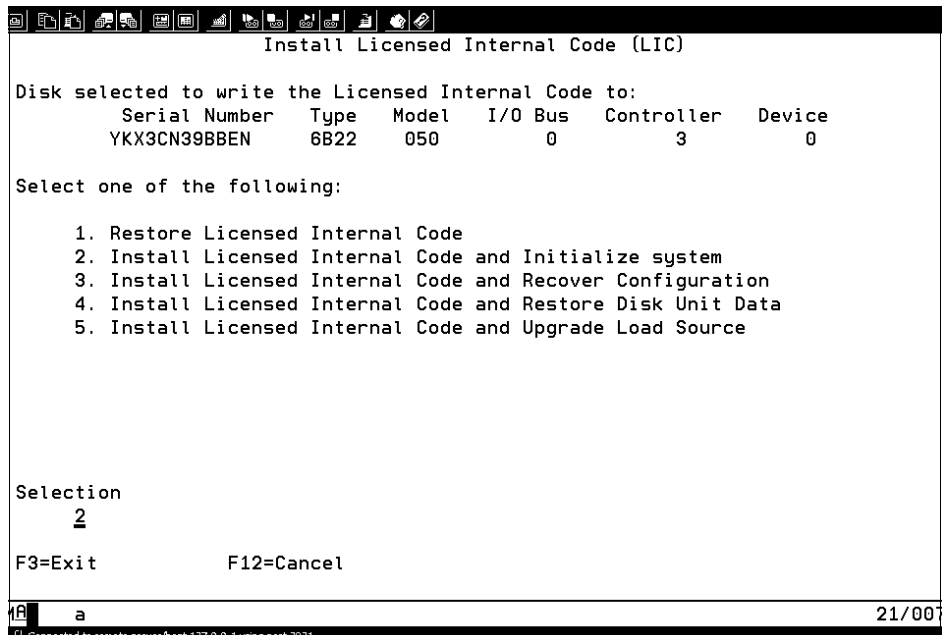

Figure 7-53 Select options
- The install Licensed Code (LIC) menu appears on the console as shown in Figure 7-53 on page 298. Type 2 for Install Licensed Internal Code and Initialize system, then press **Enter** to continue.